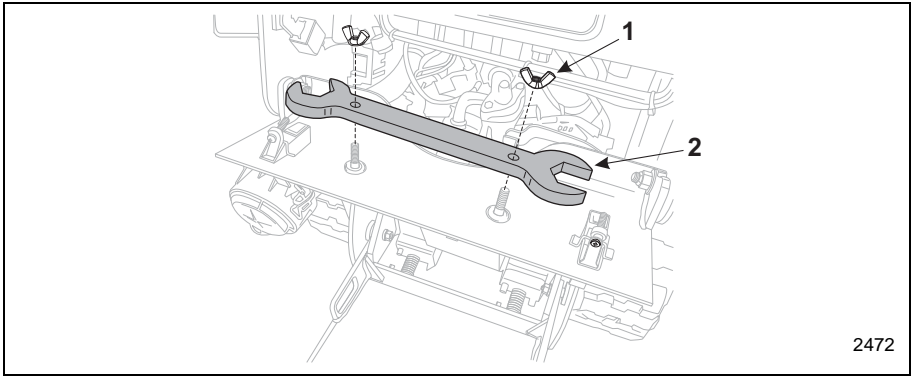

Figure 4-13 Track Adjustment Bolt Lock Plate
- g. Adjust the track tension by rotating the tension bolt (Item 3, **Figure 4-12**) COUNTERCLOCKWISE to tighten the track and CLOCKWISE to loosen the track. Use the 1 5/8" wrench (Item 2, **Figure 4-13**) located under the removable service access cover.